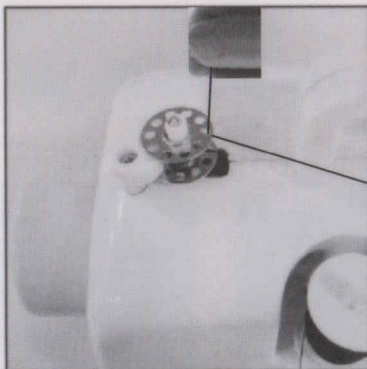

Fig. 14
4. Push bobbin to the left. (Fig. 14)